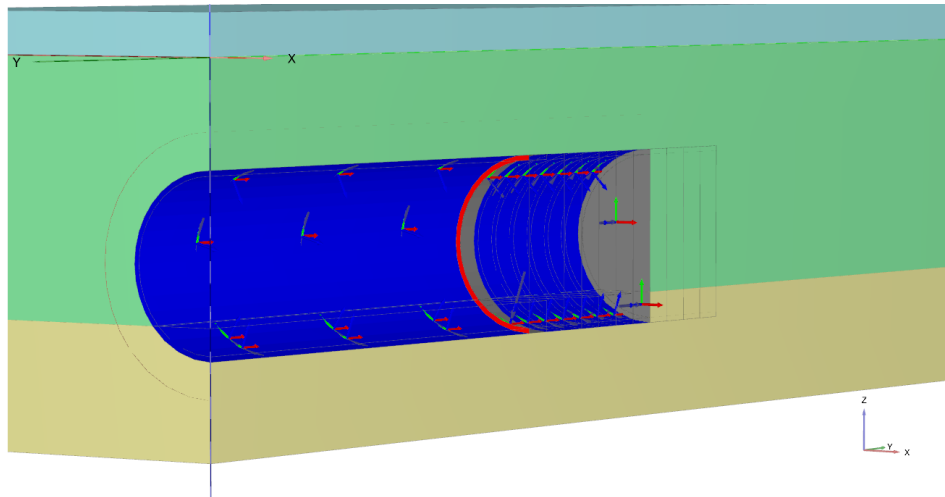

Figure 81: Selection of soil surfaces (25.0 m)
- c. In the drawing area select the lateral surfaces of the outer volume, corresponding to the last slice of the TBM (grout and jack thrusting) at 25.0 m (Figure 81 (on page 107)). In the **Selection explorer**, deactivate the surface load corresponding to the jack thrusting, because the TBM is only placed in this phase and it's not moving.